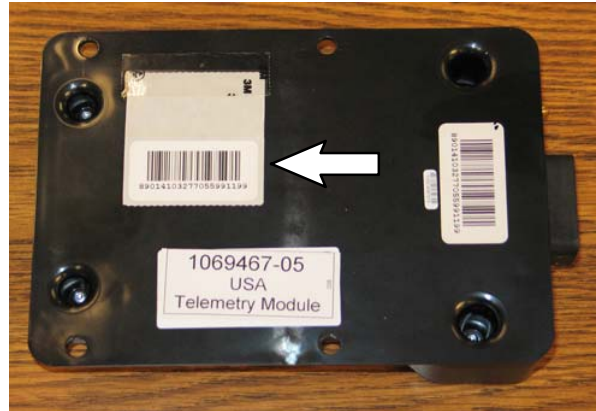

FIG. 7
15. Remove the additional SIM label from the back of the control box (1) and set label aside in a safe place. The number on the SIM label will be needed for activating the machine. (Fig. 7)